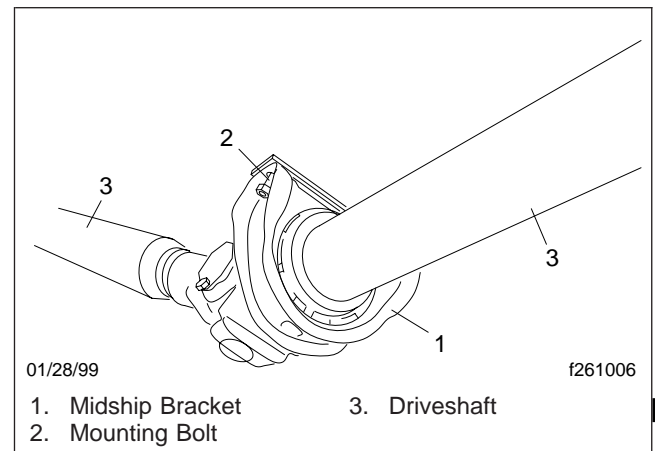

Fig. 3, Midship Bearing Bracket
- 3.3 Remove the midship bearing bracket. See Fig. 3.